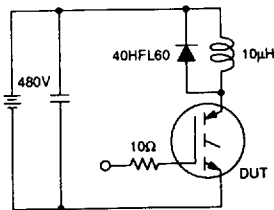

Fig 12a. Clamped Inductive Load Test Circuit
- ② $V_{CC} = 80\%$ (BV_{CES}), $V_{GE} = 20\text{V}$, $L \geq 10\text{ }\mu\text{H}$, $R_G = 10\Omega$, (See figure 12a)